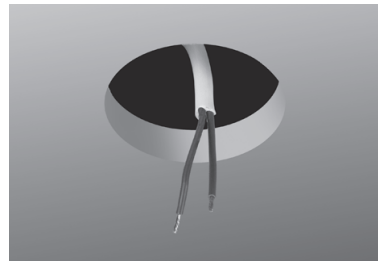

Fig 1
2. Saw a hole with diameter 64 mm in the ceiling where the downlight will be installed. Lead the installation wires through the hole (Fig 1).